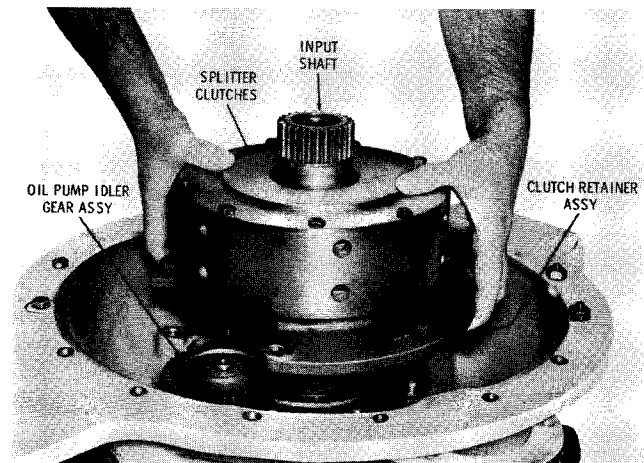

Fig. 7-11. Installing splitter clutches (VS2 series)
(2) Install the splitter clutches (as rebuilt in paragraph 6-6) onto the input shaft (fig. 7-11). Use care not to damage the seal-rings installed in (1), above.
(3) Install the five 1/2-13 x 1 1/2-inch, self-locking bolts 49 (A, foldout 9) to retain the